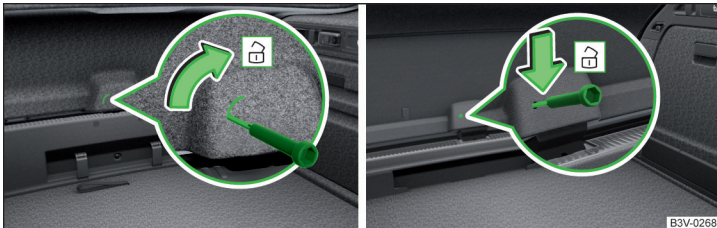

Fig. 348 Unlatch lid: Version 1/version 2
- › Insert a screwdriver or similar tool into the recess or the opening in the trim» Fig. 348 as far as the stop.